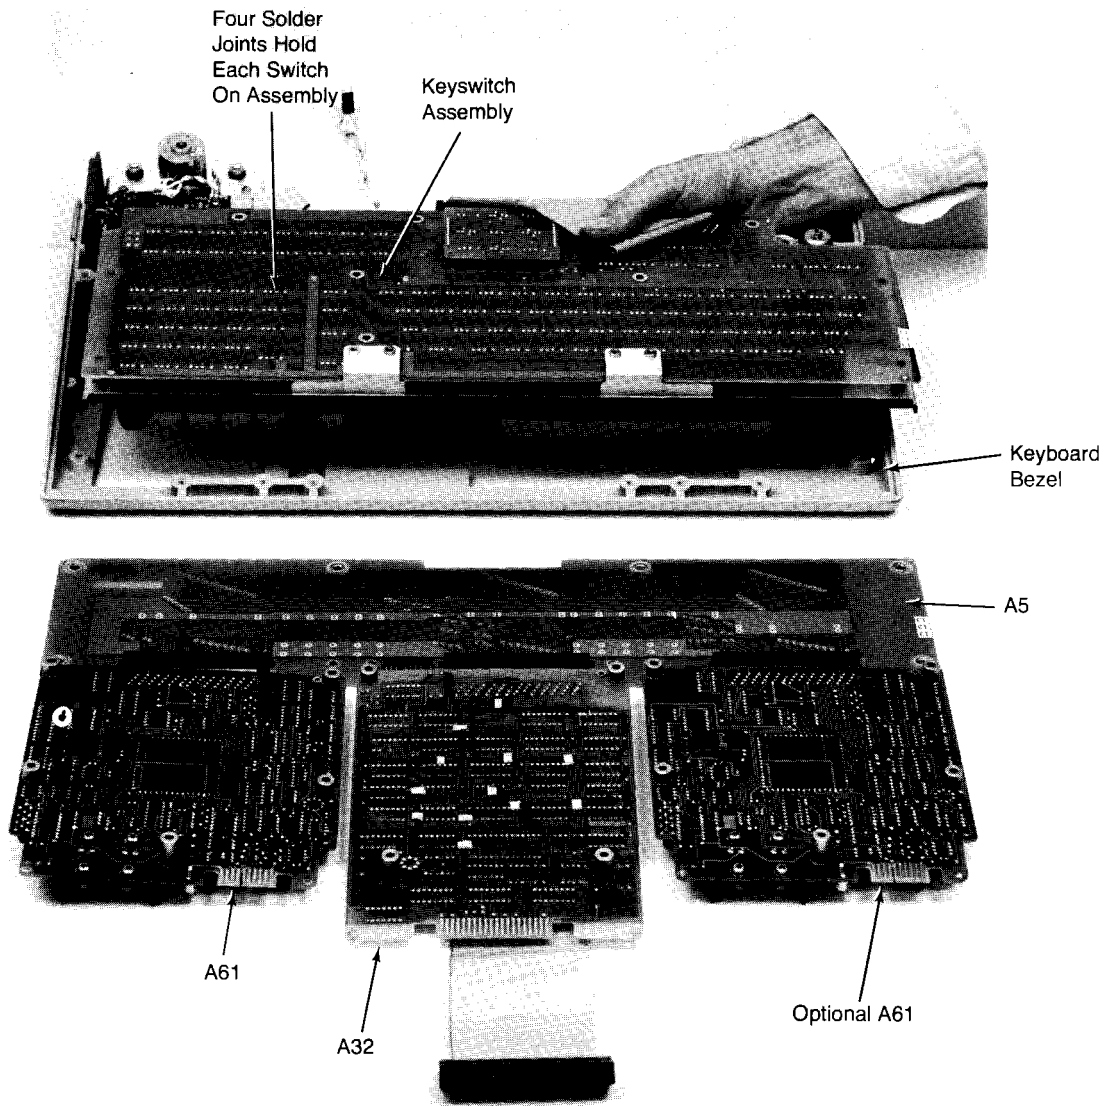

Figure 3-20: Removing Keyboard PC Assembly
- Remove the screws holding the A32, A61 and A5 PC assemblies to the keyboard bezel, see Figure 3-20, and remove the PC assemblies.